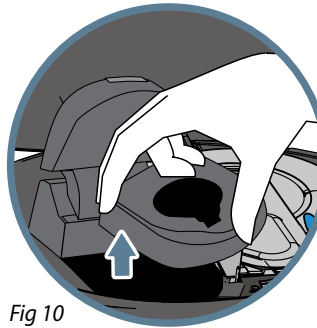

Fig 10
- Lift out and machine wash (top rack only) (Fig. 10).